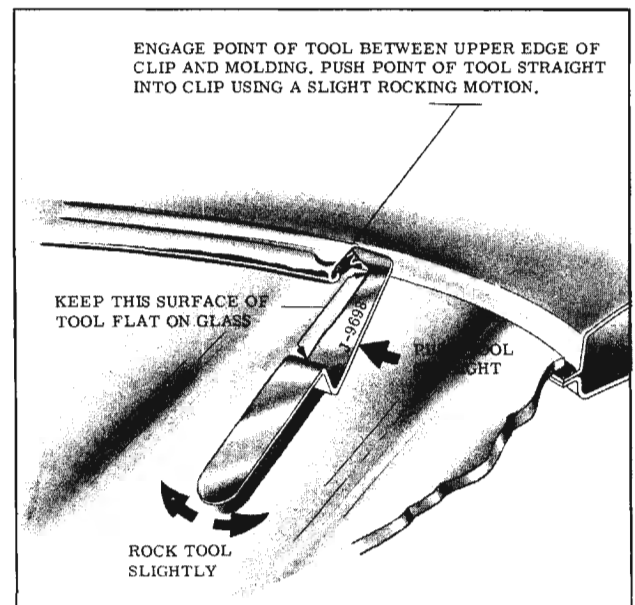

Fig. 16-213 Disengaging Reveal Molding From Clip
4. Remove windshield reveal moldings as follows: use reveal molding clip disengagement Tool, J-9698. (Fig. 16-213) Remove upper reveal moldings first. Next, disengage side reveal moldings and outer ends of lower reveal molding from clips; then, remove side reveal moldings. Remove lower reveal molding.
Use reveal molding clip disengagement Tool, J-9698. (Fig. 16-213) Remove upper reveal moldings first. Next, disengage side reveal moldings and outer ends of lower reveal molding from clips; then, remove side reveal moldings. Remove lower reveal molding.